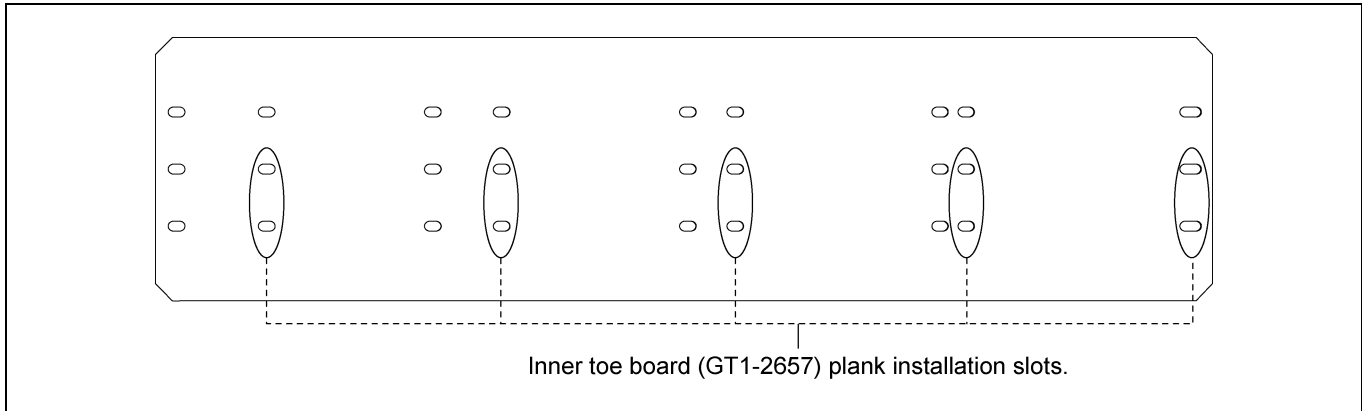

Figure 6N 17' Inner Toe Board (GT1-2657)
2. Inner toe board (GT1-2657) is arranged with many slots to install plank. Install offset and roof hatch planks to corresponding slots as shown in Figure 6N.